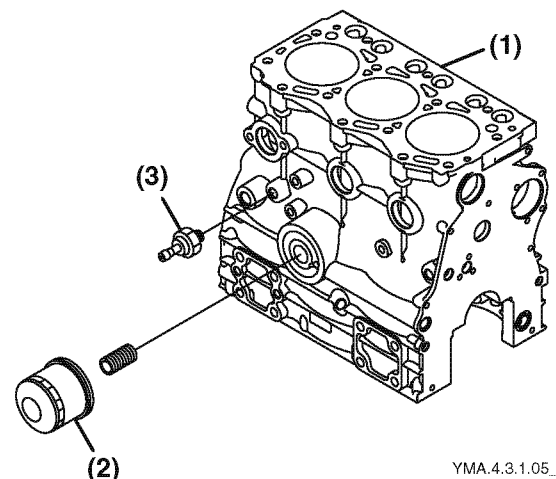

Figure 5-90
1. Remove the oil filter (**Figure 5-90, (2)**) from the cylinder block (**Figure 5-90, (1)**).
2. Remove the oil pressure switch (**Figure 5-90, (3)**).